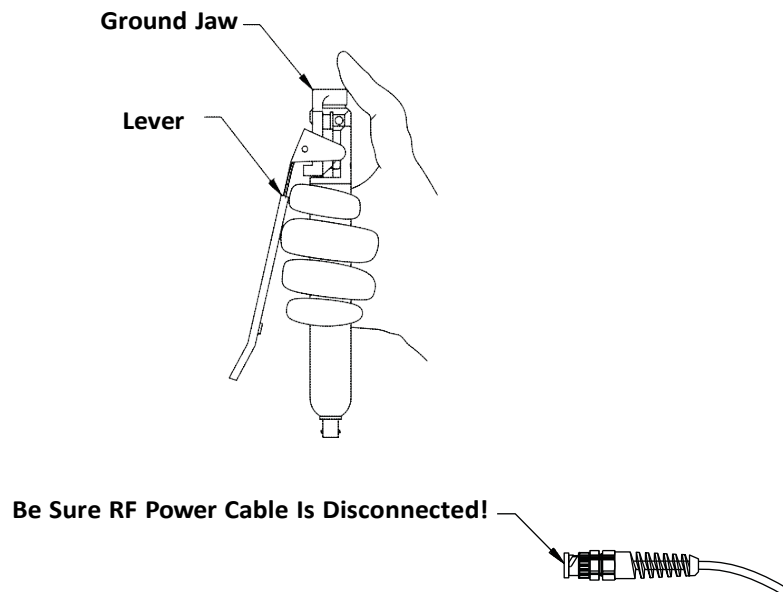

Figure 4-7, Releasing Spring Tension in Sealing Head
3. Holding the Sealing Head in a vertical position, use thumb to completely close the ground jaw, thereby releasing the ground jaw spring tension and the resulting force on the lever. See Figure 4-7, Releasing Spring Tension in Sealing Head. If required, additional leverage may be obtained by placing the connector end of Sealing Head tube on a padded surface. *Be sure the RF power cable is disconnected from the Sealing Head!*